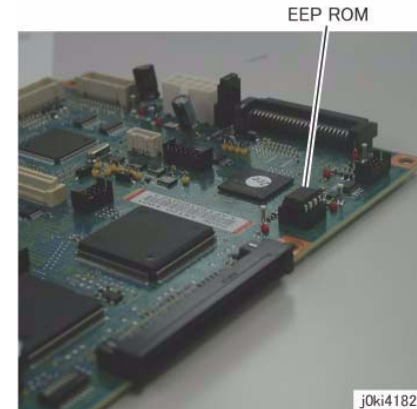

Figure 4 Remove the EEP ROM
1. When replacing the MCU PWB, remove the EEP ROM from the old MCU PWB and install it onto the new one. (Figure 4)